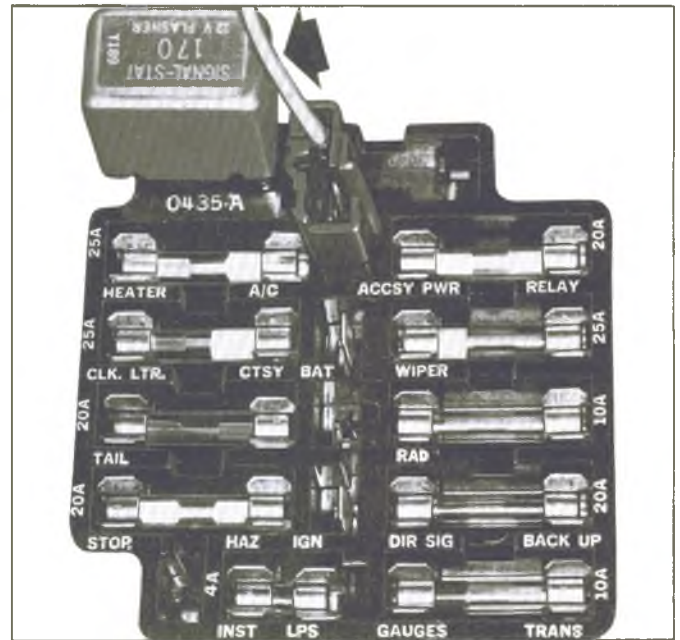

Fig. 119—Checking Hazard Warning Flasher
3. Depress hazard warning button and check all lights in signal switch system. Replace any which do not work. If all lamps light when hazard warning is depressed, but flashing does not occur, replace hazard warning flasher. (On fuse block) (Figure 119).